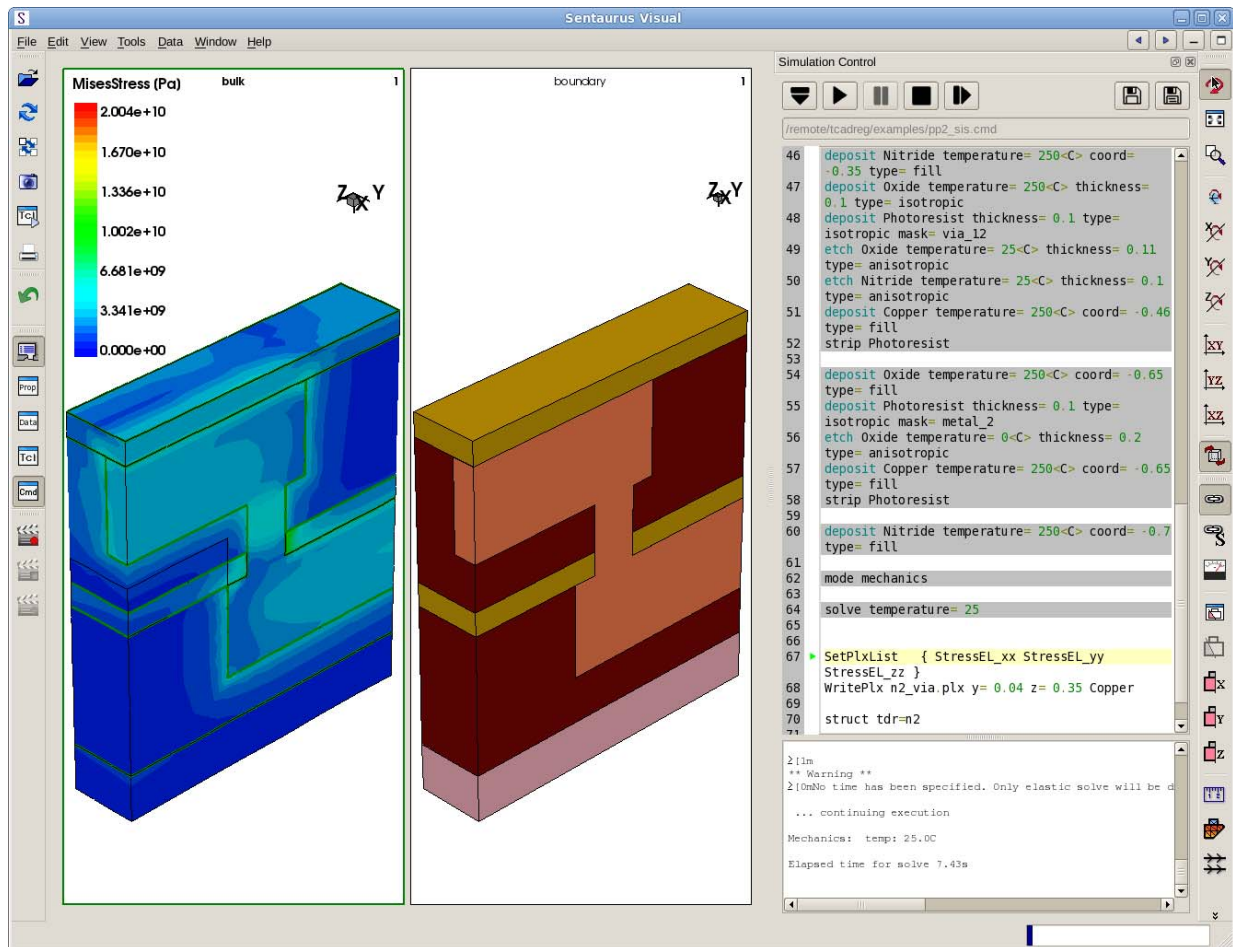

Figure 1 Interface to Sentaurus Visual: upper pane of Simulation Control panel shows command file and lower pane of Simulation Control panel shows log file
The interface to Sentaurus Visual can visualize 1D, 2D, and 3D structures and data evolution while the simulation progresses (see Figure 1 on page 7). The interface is initiated and controlled from Sentaurus Visual, including control of the simulation.
1. In the Simulation Control panel, click the Load button (see Figure 1 on page 7).
In 3D simulations, two plots are shown with the titles ‘bulk’ and ‘boundary’ (see Figure 1 on page 7). This is because, in 3D simulations, both the bulk and boundary are not always up to date. The plot with its title in bold shows the last updated information. For example, if the `insert` command is called in a 3D simulation, the boundary is updated; however, by default, the mesh is not updated. After the insertion operation is completed, the title of the ‘boundary’ plot will be bold, and the title of the ‘bulk’ plot will not be bold.